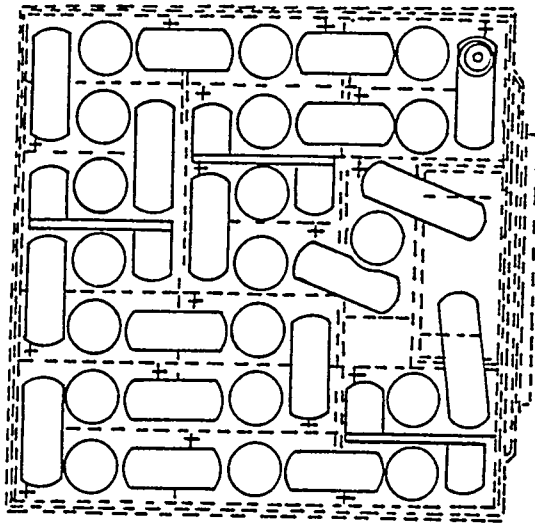

Figure 13-1. Cell Link Arrangement.
h. Reassemble battery per Figure 13-1. Make sure cells are connected correctly, positive of one cell to negative of next. Recharge, adjust electrolyte and return battery to use.
i. Reassemble the attaching hardware finger tight. Arrange the cell links as illustrated in Figure 13-1.